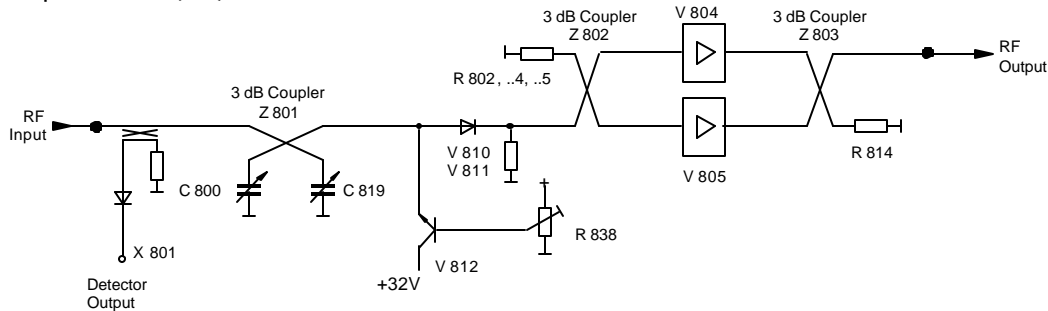

Figure 4-1: 40 Watt UHF Amplifier Module
amplifier assembly (Figure 4-1). The assembly is made up of a (51-5378-308-00) module, which operates class AB and is a highly linear broadband amplifier for the frequency range of 470 to 860 MHz. It can deliver an output power of 40 watts (CW) with approximately 14 dB of gain.